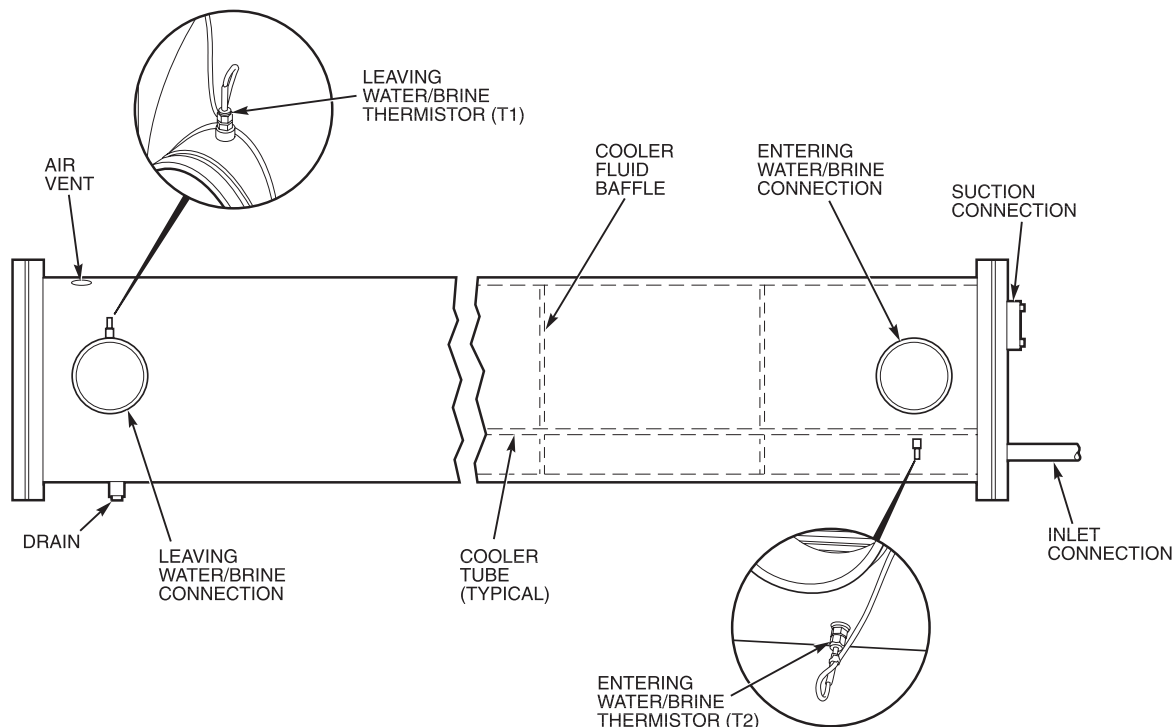

Fig. 22 — Cooler Thermistor Locations
3. Cooler may be under pressure. Open the air vent at the top of the cooler, and open the drain on the bottom of the cooler (near the leaving fluid outlet) to drain the cooler. Both the drain and the air vent are located on the leaving fluid end of cooler. See Fig. 22. Remove the cooler waterside strainer.
4. Disconnect the conduit and cooler heater wires, if equipped. Remove all thermistors from the cooler, being sure to label all thermistors as they are removed. Thermistor T1 is a well-type thermistor, and thermistor T2 is immersed directly in the fluid. See Fig. 22.
7. Close the air vent at the top of the cooler, and close the drain on the bottom of the cooler near the leaving fluid outlet. Both the drain and the air vent are located on the leaving fluid end of the cooler. See Fig. 22.